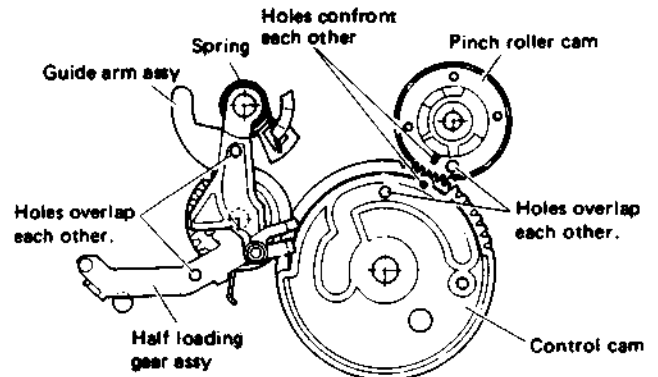

Fig. 1-1-7 Cassette housing installation
1. On the main deck, observe the positional relationships of the parts indicated in Fig. 1-1-7.